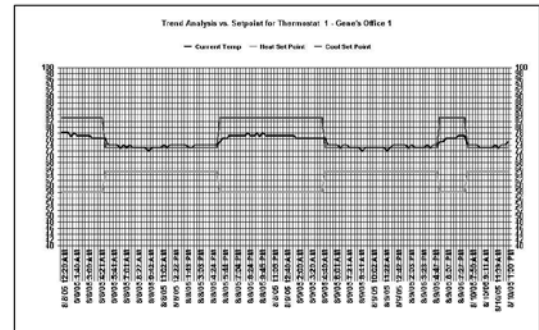

Fig. 34
- The chart displays temperatures from 40-100° in 2° increments on the Y axis, and dates and times are displayed on the X axis (see Fig. 34).